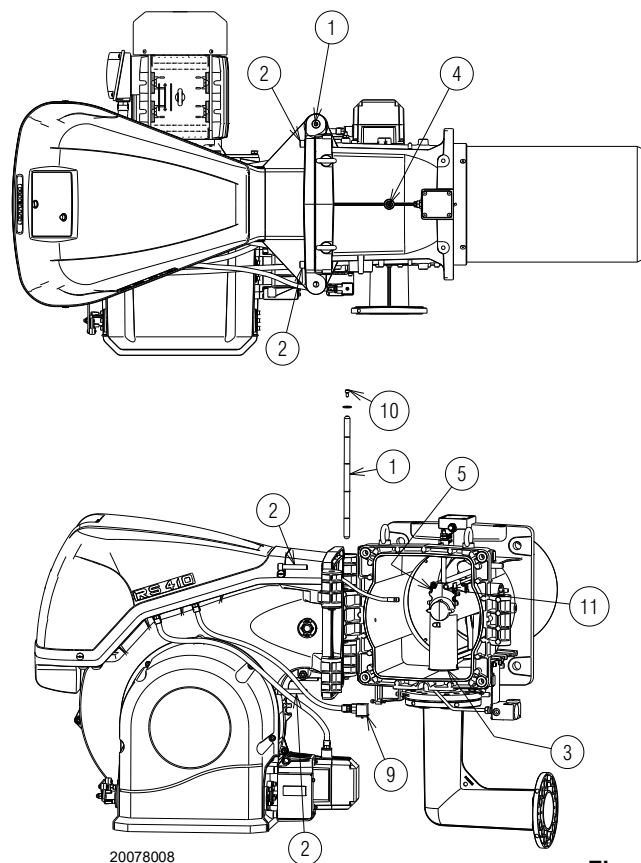

Fig. 15
The burner leaves the factory set for opening to the left, therefore maintaining the pin 1)(Fig. 15) in the housing.
- A** Disconnect the plug/socket 9)(Fig. 15) of the maximum gas pressure switch;
- D** Fully open the burner as in Fig. 15;
To open the burner from the opposite side, before removing the pin 1)(Fig. 15), make sure that the 4 screws 2) are tight. Then shift the pin 1) to the opposite side, only then is it possible to remove the screws 2). Disconnect the socket 9)(Fig. 15) of the maximum gas pressure switch, then proceed as described above at point **C**).